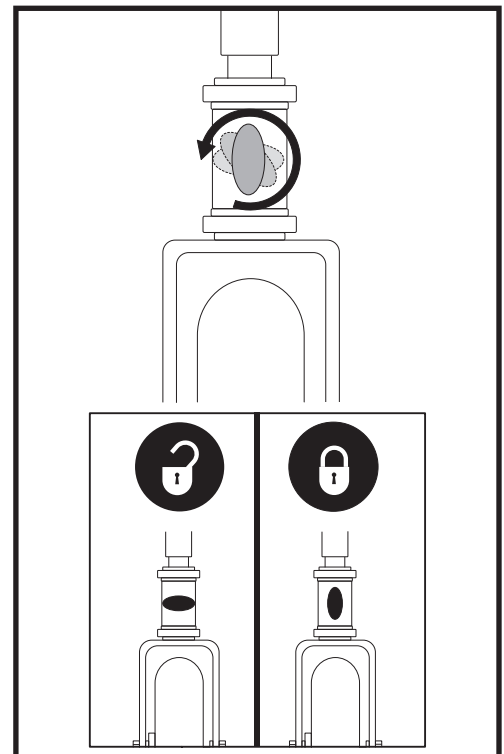

Figure 26. Tiller Lock Knob (Model 104 only)
1. Remove the key from the key switch. For model 104, lock the tiller in the straight ahead position by pushing the tiller lock knob in and turning it clockwise 90°. See figure 26. The front wheel must face forward in order to lock the tiller.